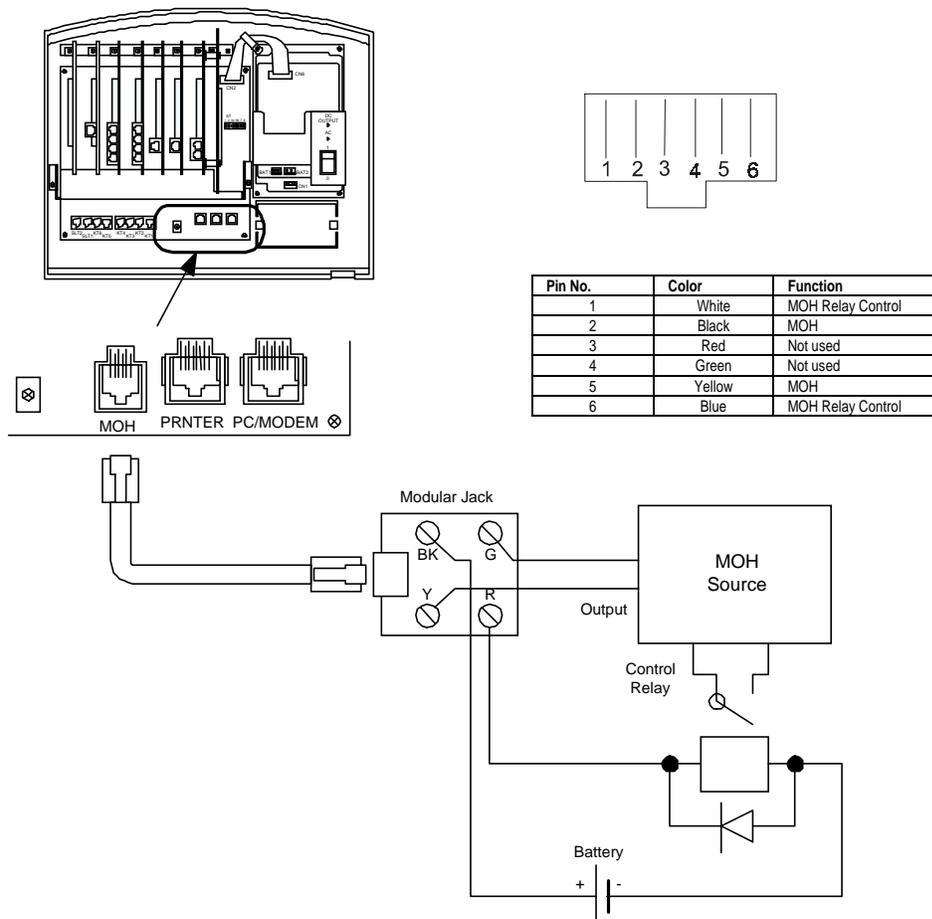

FIGURE 49. WIRING FOR AN EXTERNAL MOH SOURCE
5. Plug the output from the modular jack into the MOH modular jack on the VS-MAIN (motherboard) card using an industry standard base cord as illustrated in Figure 49.